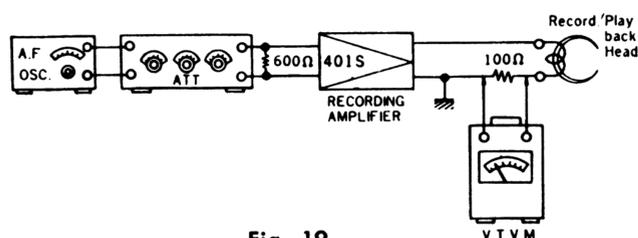

Fig. 19
Measuring Circuit: Refer to Fig. 19.
- As shown in Fig. 19, connect Output of AF Oscillator to Microphone Input Jack of Model RQ-401S through Attenuator (Terminal with 600 Ω, if impedance of Attenuator is 600 Ω). Disconnect wiring from ground side of Record Head. Insert 100 Ω Resistor between Lead Wire and Terminal.